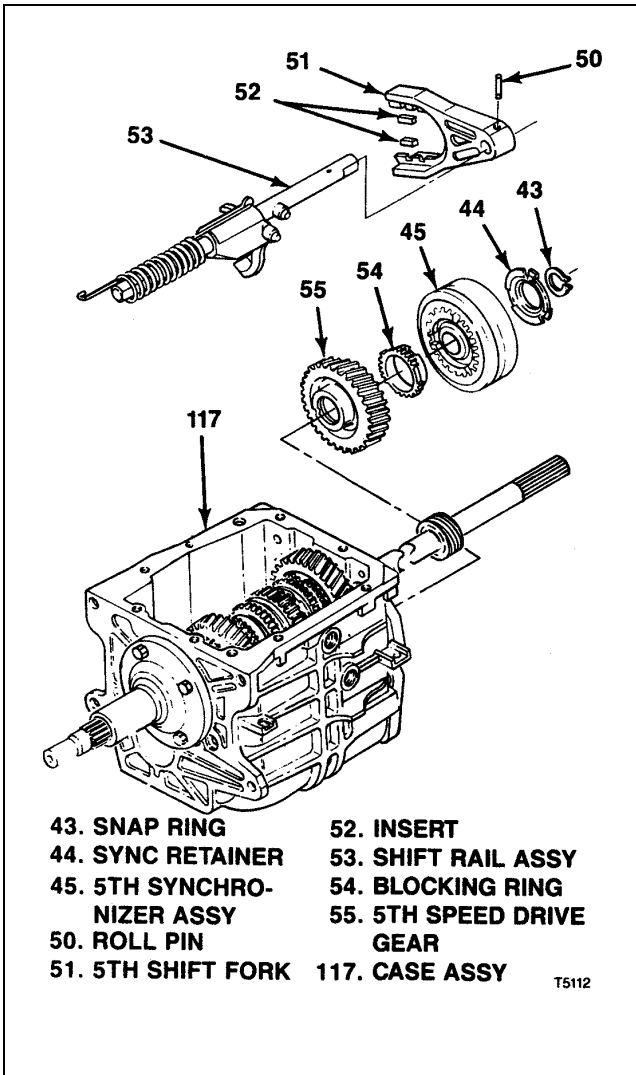

Figure 3-6. T5 WC 5th Synchronizer Shift Fork and Gear
- a. From inside transmission assembly, remove retaining ring (39).
- b. From outside transmission, remove pivot pin (40) and back-up switch (41).
- c. Work 5-R shift lever (42) out of engagement and lift out top of transmission case (117).
3-12. REMOVAL OF T5 WC 5TH SYNCHRONIZER SHIFT FORK AND GEAR. At rear of transmission case (117), remove parts as follows (see figure 3-6):
- a. Remove snap ring (43) and 5th synchronizer retainer (44).
- b. Simultaneously pull 5th synchronizer assembly (45) and 5th shift fork (51) with attached shift rail assembly (53),
- c. To separate 5th shift fork (51) and shift rail assembly (53), drive out roll pin (50). Remove inserts (52) from fork.